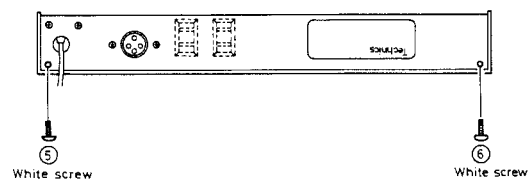

Fig. 7
4. Remove 12 setscrews (⑦ ~ ⑱, in Fig. 7) which secure printed circuit board, chassis and power supply box.